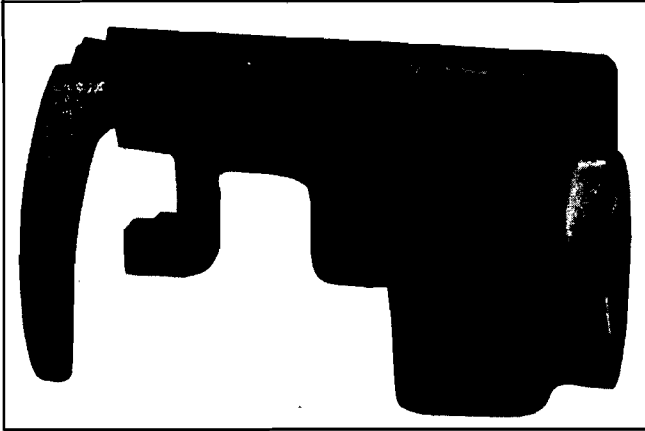

Fig. 8-4 Tank Gage Unit Tool J 23346
3. Remove tank gage unit by using tool J 23346 on all models except Pontiac (Fig. 8-4). Remove six attaching hex head screws on Pontiac.
3. Remove tank gage unit by using tool J 23346 (Fig. 8-4).